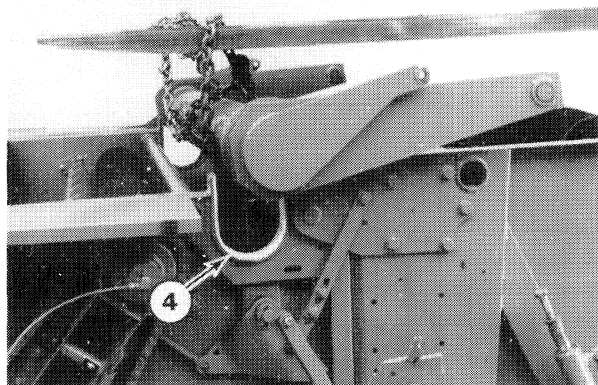

Figure 7-57
8. Chain or strap the take-up arm assembly to the lifting device. From inside the baler, rotate the arms up approximately 30" (762 mm) and secure to overhead. The arm assembly can now be removed from the baler. See Figure 7-57.
Replace nylon bearing, 4, Figure 7-57, any time a take-up arm is removed or when signs of contact of the lower arms with the bale chamber side sheets is observed.